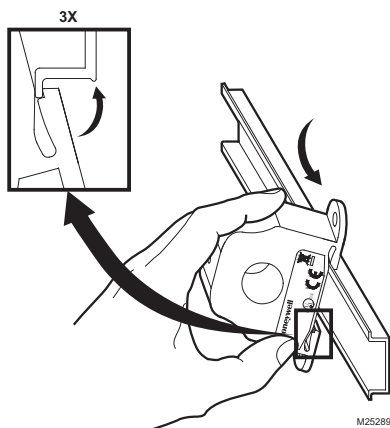

Fig. 1. Sensor placed on DIN rail
The current switch may be mounted in any position using the (2) #8 x 3/4 in. (19 mm) Tek screws and the mounting holes in the base snapped directly on to the 1.4 in. (35 mm) DIN rail (See Figures 1 and 2). Leave a